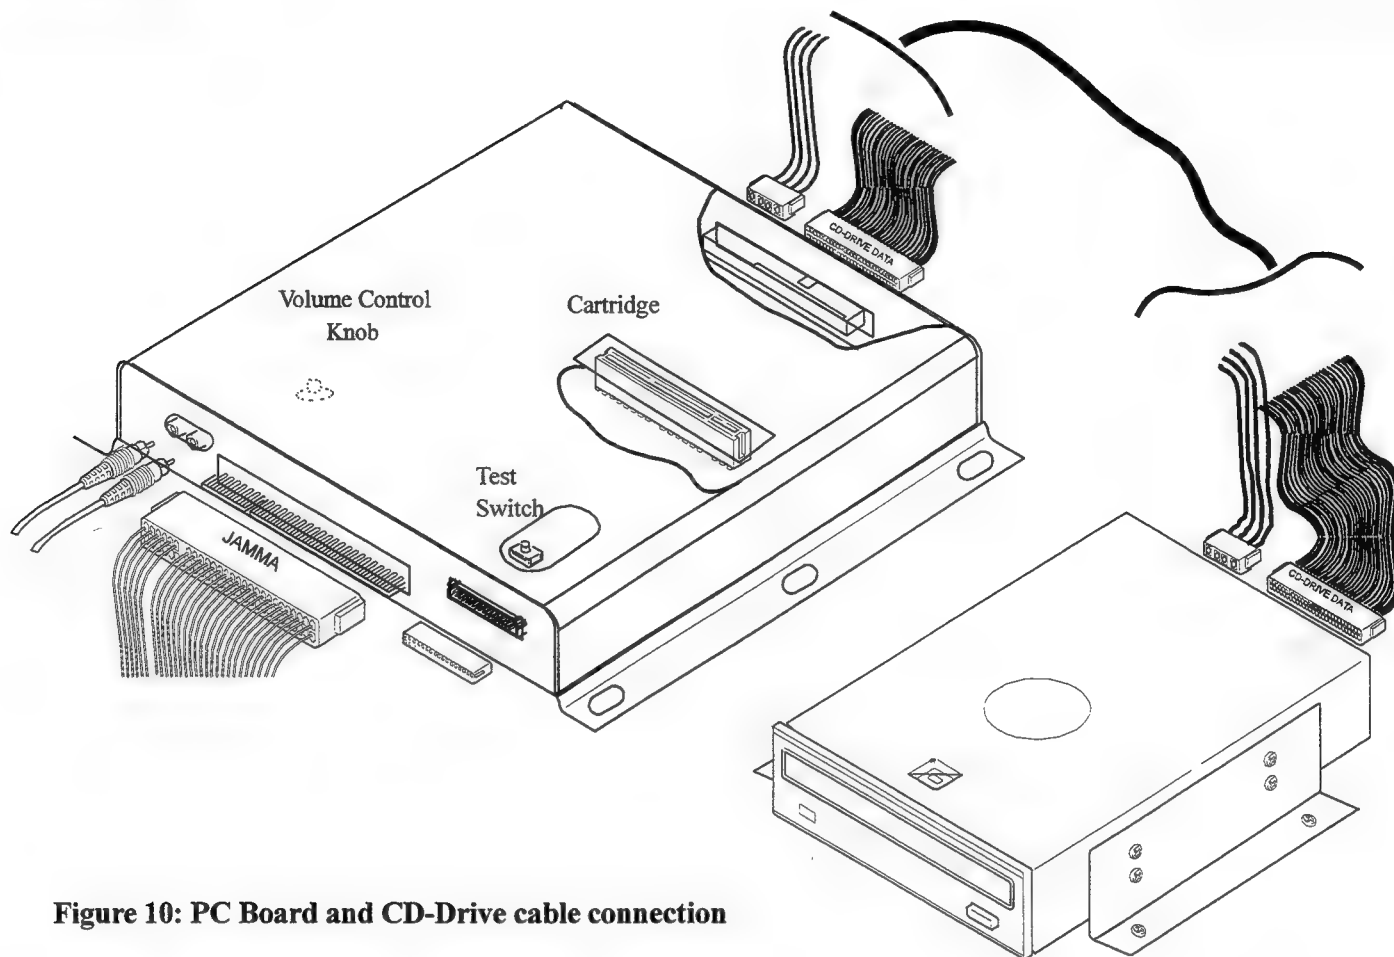

Figure 10: PC Board and CD-Drive cable connection
31. Attach Power and Data Cable to CD-Drive. Connect other end to SCSI combination connector on the main PCB (Figure 10).
32. Connect the JAMMA harness connector to the edge connector on the PC Board (Figure 10).
33. Attach the auxiliary cable connector to the PC Board. (Figure 10).
34. If you elect to use Q_Sound Audio Amplifier, connect audio cable to audio output on the PC Board. (Figure 10).
34. After the CD-ROM is installed, the game is playable. Adjust the speaker volume by turning the volume control knob clockwise to increase volume, or counterclockwise to decrease volume (see Figure 10)